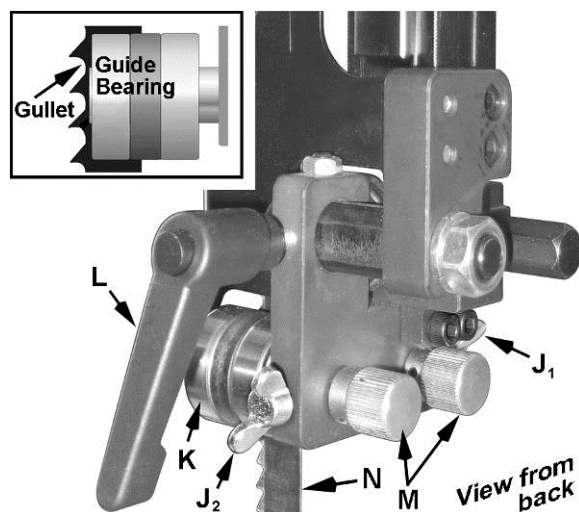

Figure 22
To adjust the guide bearings (refer to Figure 22):
4. Loosen the *locking handle* (L) and slide the assembly until the front of the *guide bearings* rest just behind the *gullet* of the blade teeth (see inset).
5. Loosen two *wing nuts* (J₁, J₂). Rotate the *adjustment handles* (M) until the *guide bearings* (K) rest lightly against the *blade* (N). Do not force the guide bearings against the side of the blade.
6. Tighten *wing nuts* (J₁, J₂ Fig. 22).